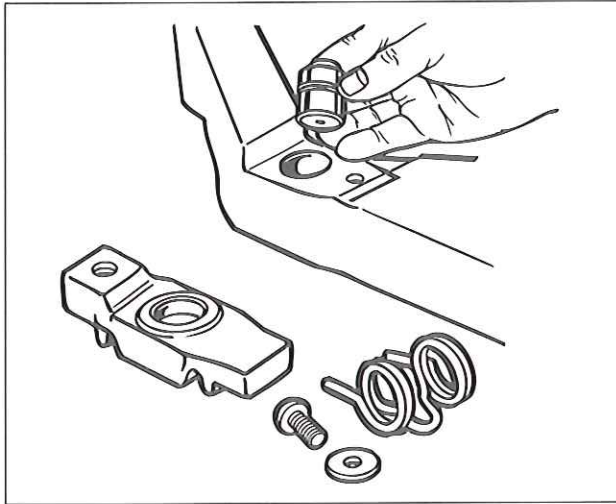

FIG. 55
2. Remove the bridge and the slave piston (see Fig. 55).